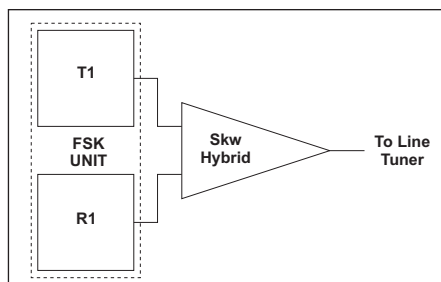

Figure 7-2.
- A Skewed Hybrid will give 3 dB less TX loss and thus a 3 dB improvement in signal to noise ratio so it is the recommended hybrid for combining a FSK carrier set TX & RX together. (See Fig. 7-2)